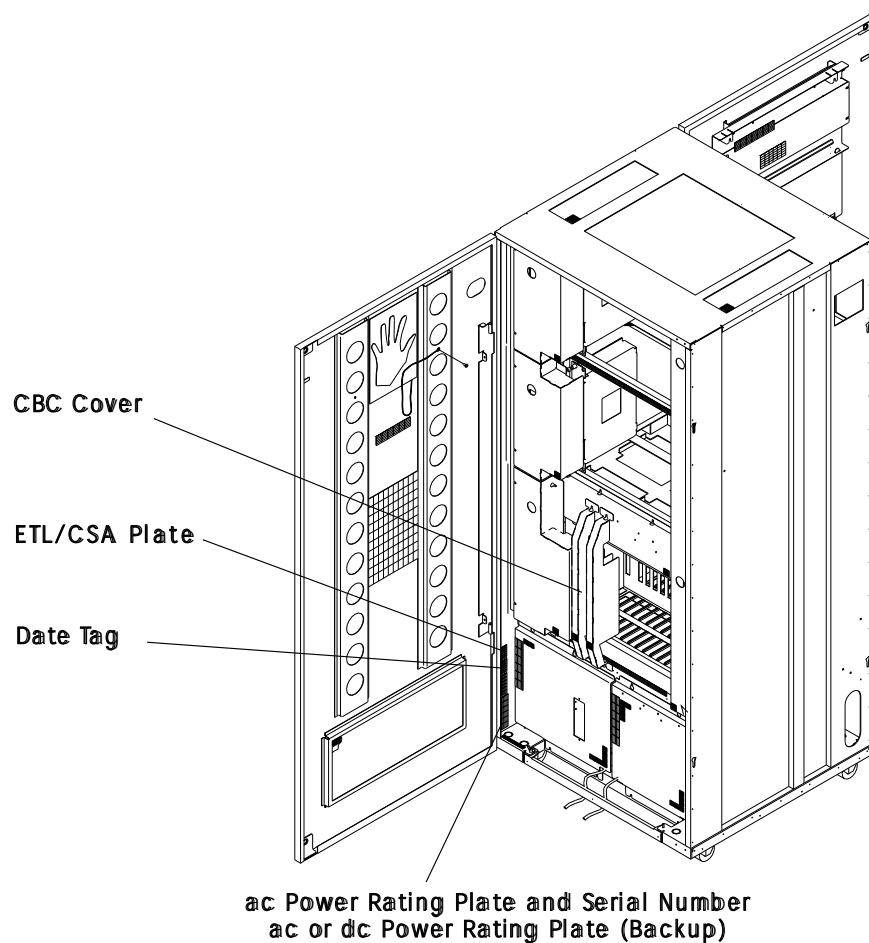

Figure 2-1. 3746-900 Power Rating Plate (Rear View)
- Step 3. ____ Open the rear door. Locate the power rating plate (see Figure 2-1). **Check that the 3746-900 Basic AC power and the Optional AC power rating plate data are consistent with the customer's available voltage AC and the frequency.**
- Step 5. ____ Check that the serial number stamped on the frame is the same as on the serial number plate (see Figure 2-1 for location).
2. ____ Remove the CBC covers (see Figure 2-1 on page 2-2).